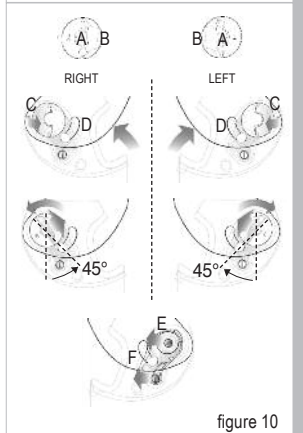

figure 10
**Removing the visor** see figure 10
**Fitting the visor** see fig. 10